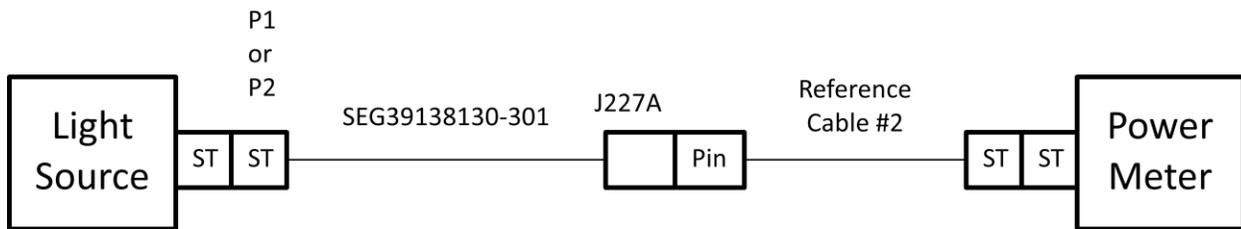

Figure 3. Insertion Loss Test P1/P2 to J227A
3.1 Configure test setup per Figure 3.